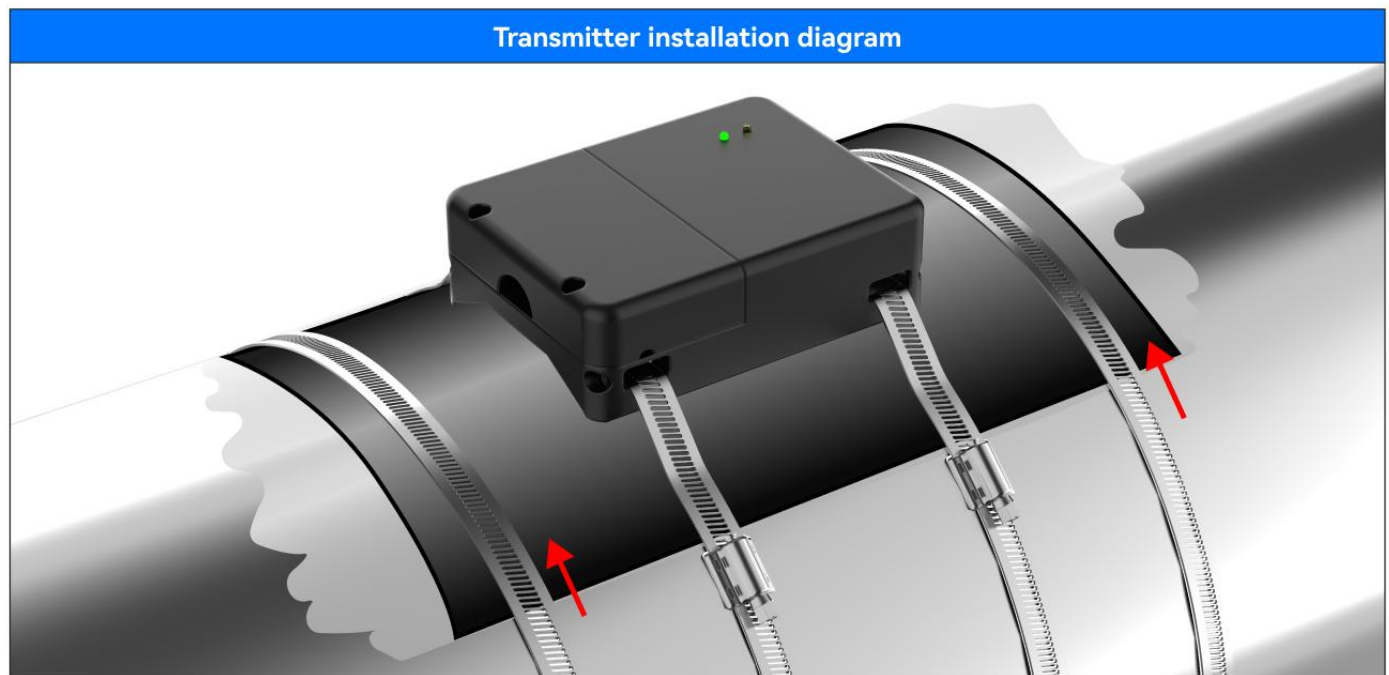

Figure 3.30
- For high speed shafts, exposed cement blocks require restraint, such as nylon straps, or mechanical bindings, such as throat straps, as shown in Figure 3.30.